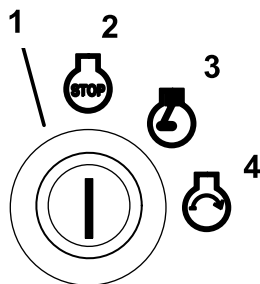

Figure 13
6. Turn the ignition key clockwise to the run position (Figure 13).
- Turn the key to the start position and the glow plug indicator light will come back on. When the engine starts, release the key (Figure 13).
- Turn the ignition key clockwise to the run position (Figure 13).
4. Turn the ignition key to the off position (Figure 13). Wait for all moving parts to stop before leaving the operating position.